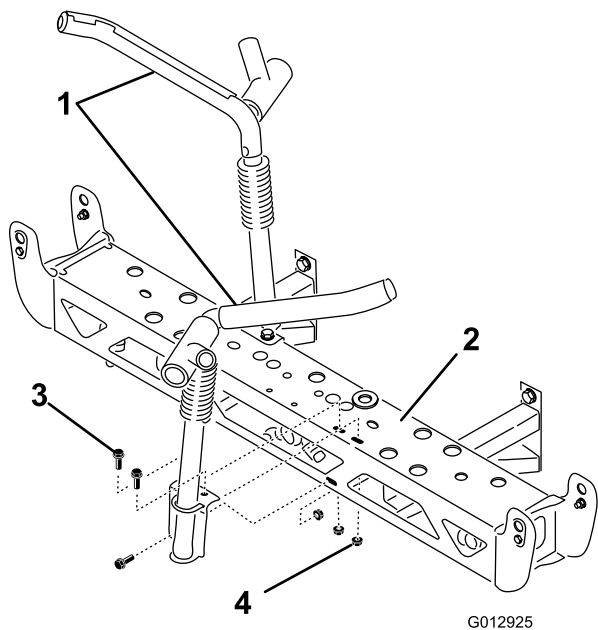

Figure 28
2. Install the boom transport cradles to the center boom using 6 bolts (3/8 x 1-1/4 inches) and 6 lock nuts (3/8 inch). Orient them as shown in Figure 28.